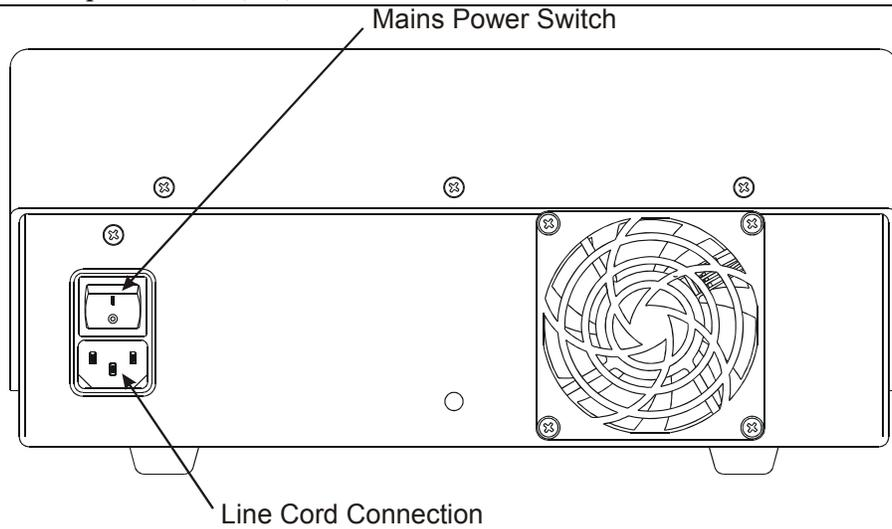

Figure 3.1 – Sonicator Plus 930, Back View –
1. Connect the line cord to the back of the Sonicator Plus 930. (See Figure 3.1)